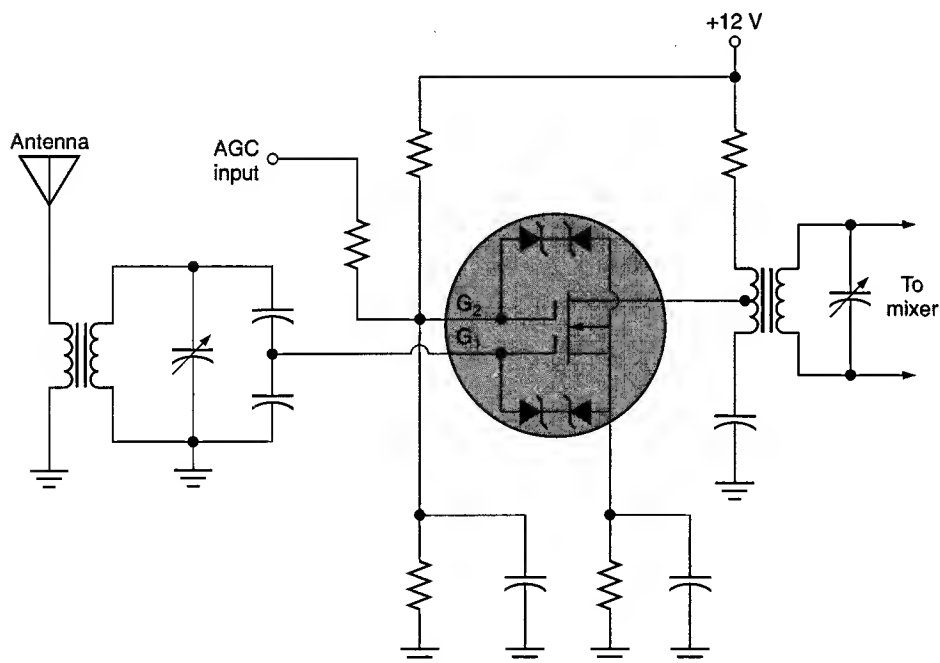

FIGURE 13.27 Dual-gate MOSFET RF amplifier.
The dual-gate MOSFET can also be used in an RF amplifier. Recall that the RF amplifier is the “front-end” amplifier in an AM receiver. A dual-gate MOSFET RF amplifier is shown in Figure 13.27. Note the zener diodes drawn inside the dual-gate MOSFET. These diodes are built into the MOSFET to protect the component from static electricity. As you know, the MOSFET is extremely sensitive to static electricity. The zener diodes protect the component inputs. Except for that, they have no effect on the operation of the circuit.
The AGC input shown in Figure 13.27 is a *feedback path* from a later stage in the receiver. The dc level at this input is determined by the amplitude of the signal in the
- 23. An RF amplifier that uses a dual-gate MOSFET is shown in Figure 13.27. One gate is used as a signal input, and the other is used for an *automatic gain control* (AGC) input.